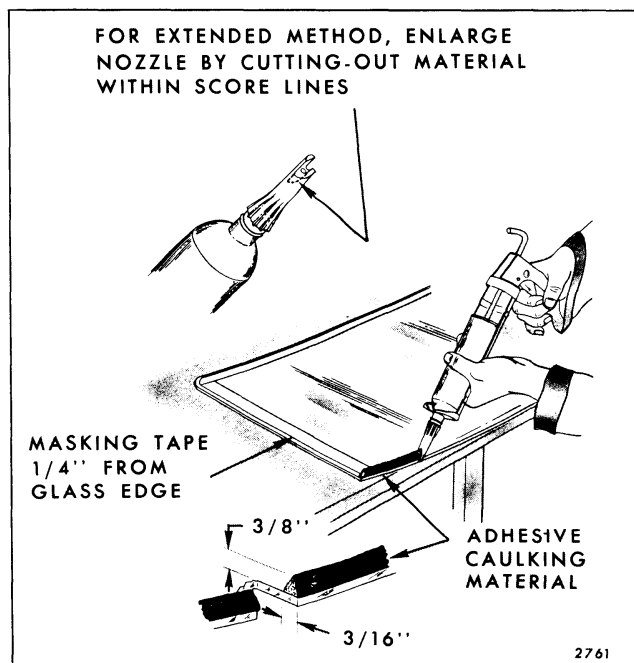

Fig. 1-16-Adhesive Material Application - Extended Method
11. Remove glass from opening and apply one-inch masking tape around inner surface of glass 1/4" inboard from outer edge. On windshield installations, apply tape to top and sides only. Do not use tape across bottom. Removal of tape after glass installation will aid in clean-up and give a smooth, even edge to adhesive material (Fig. 1-16).
13. Nozzle furnished in kit is designed for "short" method. For "extended" method, enlarge nozzle opening by removing material within score lines as indicated in Figure 1-16. Do not notch nozzle beyond score lines.
15. With caulking gun and nozzle positioned as illustrated in Figure 1-16, carefully apply smooth continuous bead of adhesive material 3/8" high by 3/16" wide at base completely around inside edge of glass.